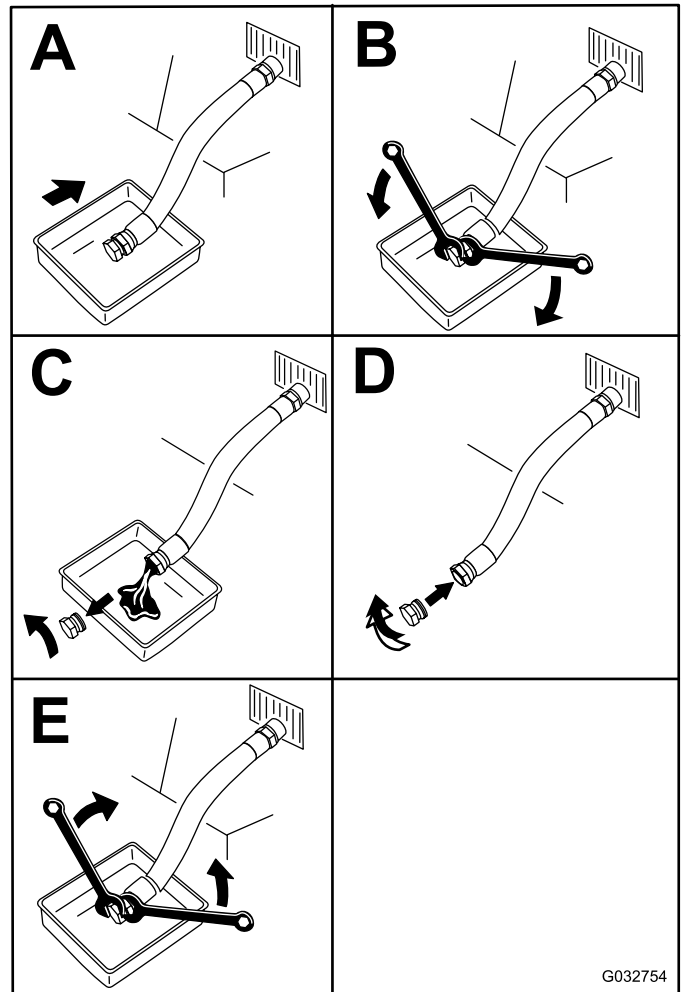

Figure 32
5. Change the oil (Figure 32).